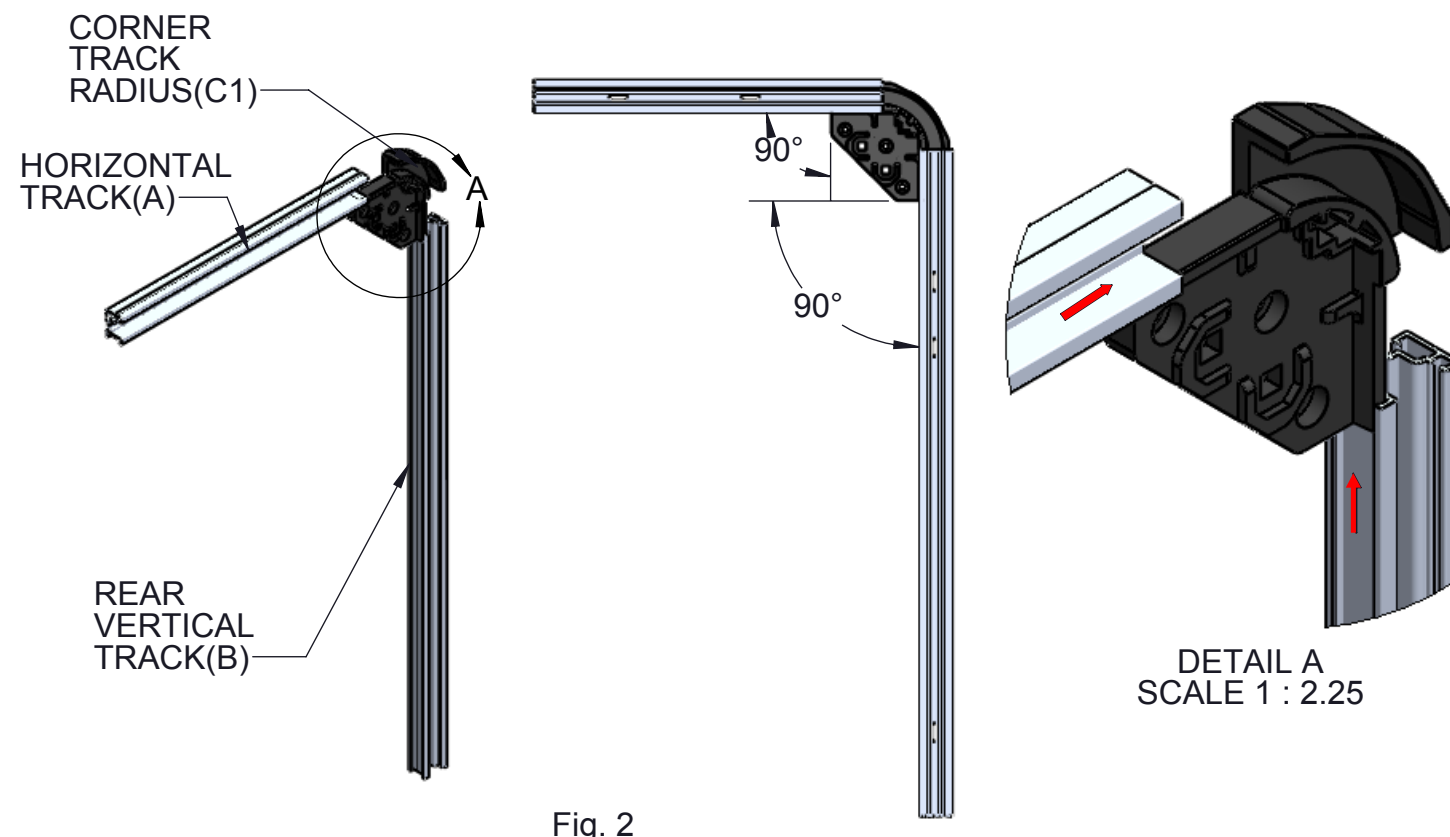

Fig. 2
- Slide Horizontal Track(A) and Rear Vertical Track(B) over the Corner Track Radius(C1) (Fig. 2 & DETAIL A).